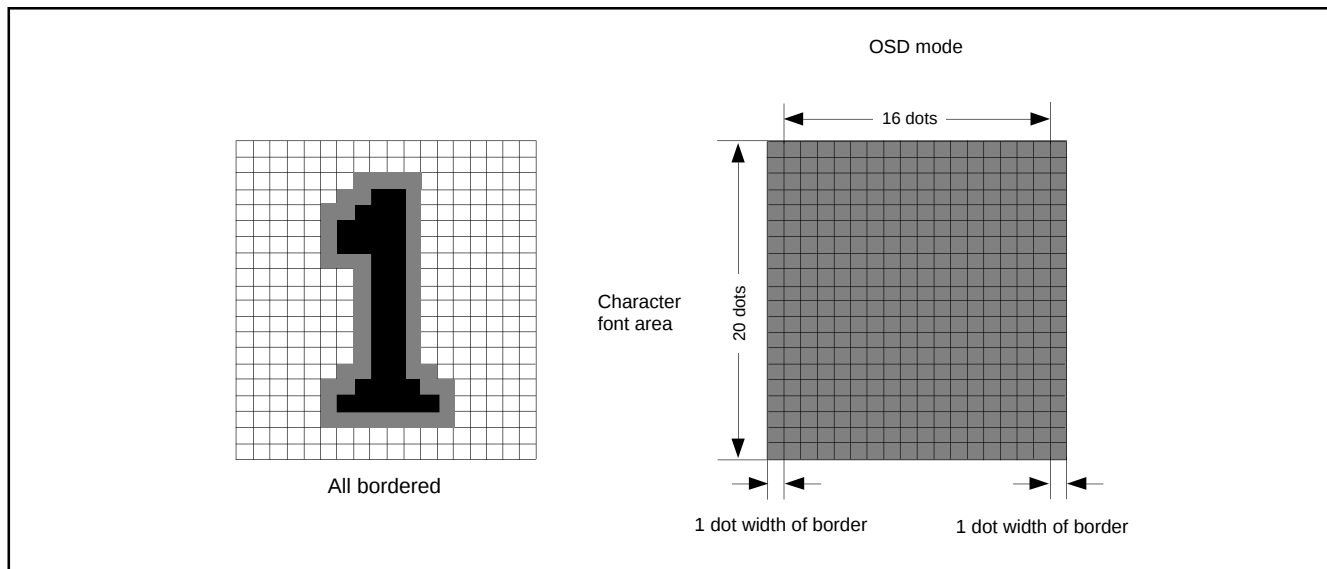

Fig. 64. Example of Border Display
**Notes 1 :** The border dot area is the shaded area as shown in Figure 64.